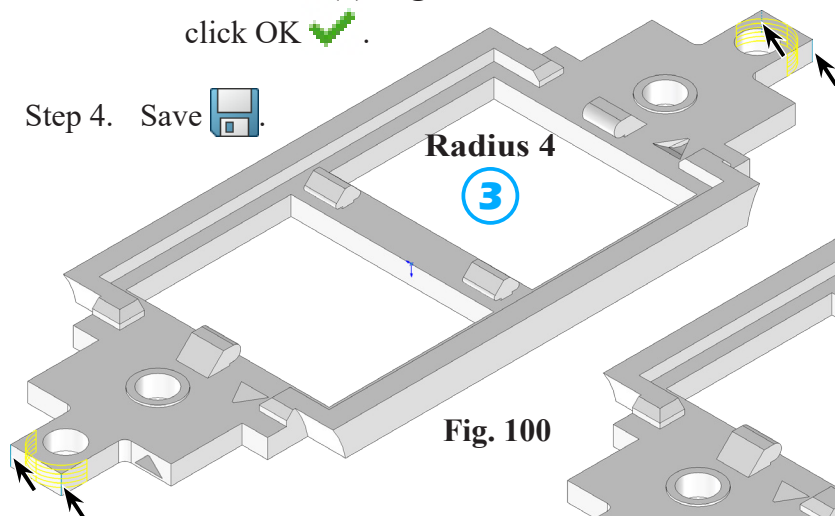

Fig. 100
③ Radius 4
click both front edges of hitch at both ends of Deck (4), Fig. 100